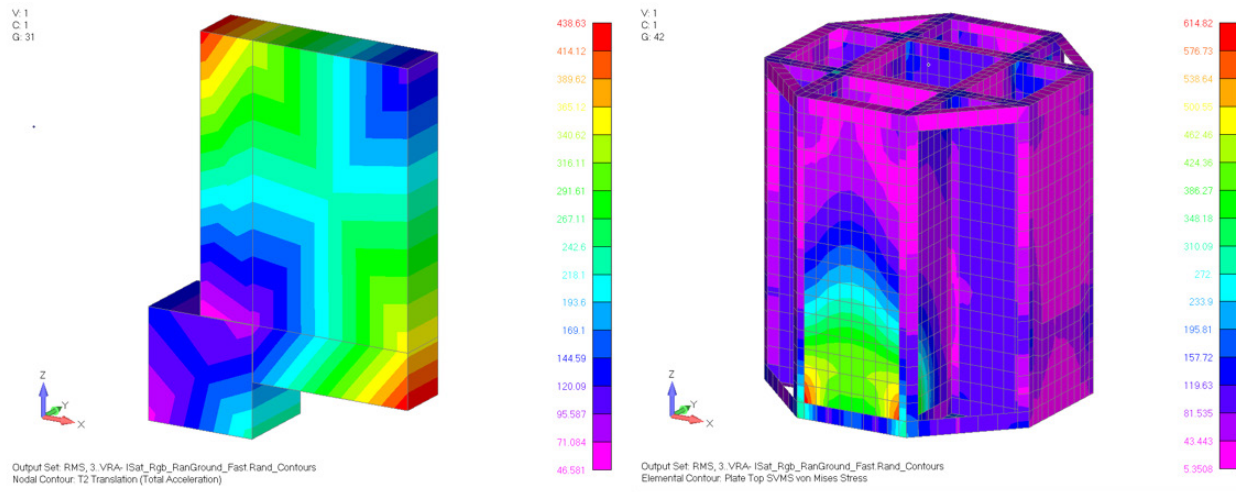

Figure 4-70. The FastRMS contours are visually identical to those from the original event.
- Go to the *Output* tab and click **Solve**. The FastRMS approach has no effect on computing response PSDs, so we need only look at the contour results (Figure 4-70).